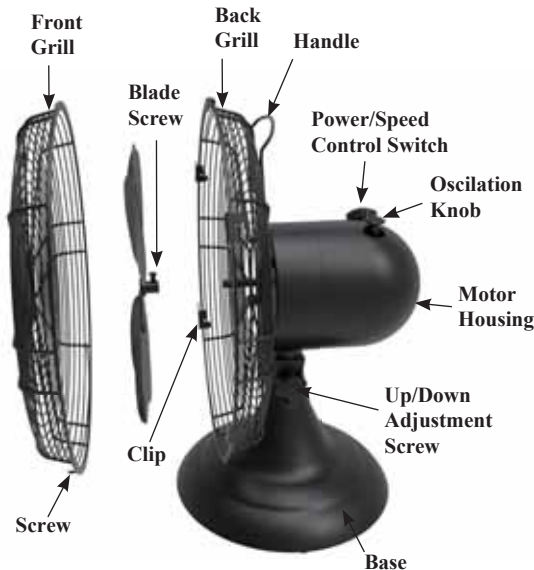

Figure 7
2. Disassemble grills by carefully removing the screw on the bottom of the grill. See Figure 7.